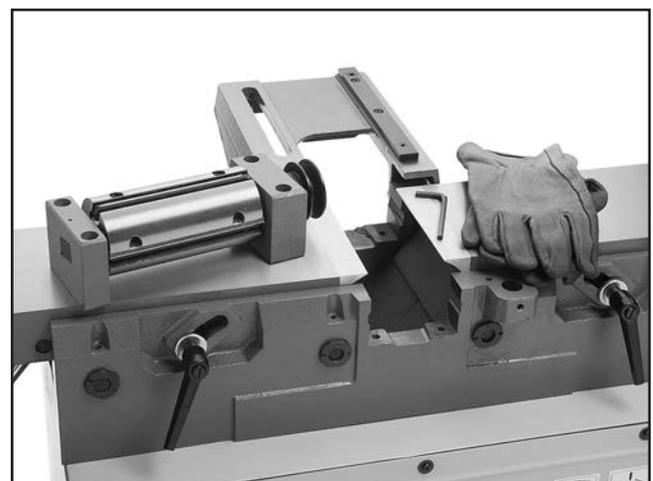

Figure 5. Example of cutterhead removed from a typical jointer.
10. Carefully remove the bearing blocks and cutterhead from the casting (see **Figure 5**).